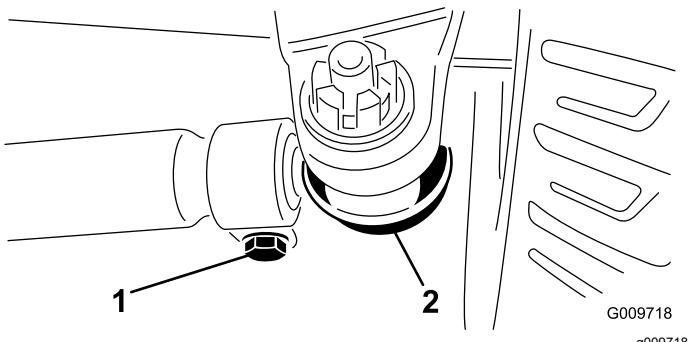

Figure 69
3. To adjust, remove the cotter pin and nut from either tie rod ball joint (Figure 69). Remove the tie-rod ball joint from the axle-case support.
4. Loosen the clamps at both ends of the tie rods (Figure 69).